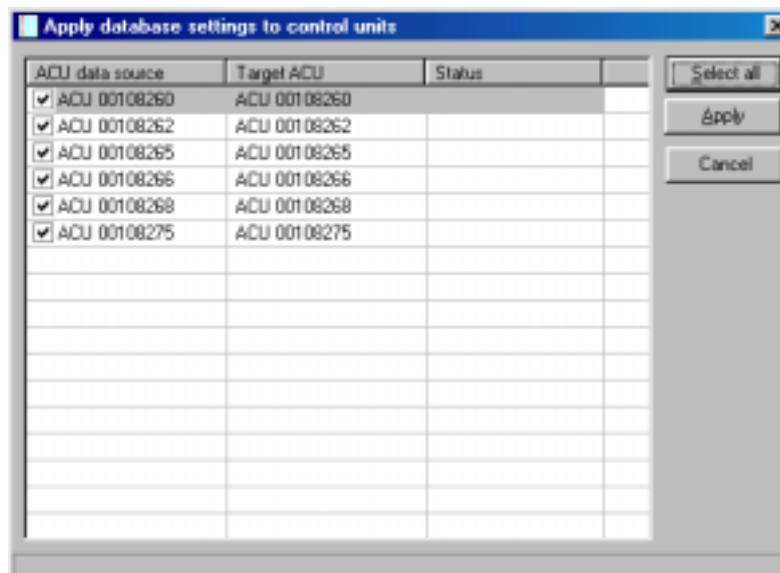

Figure 4.25
6. Press **Select all** then **Apply**, see figure 4.25. The access control units will be reset and the information from the new database will be downloaded to them. This could take a couple of minutes for each access control unit.